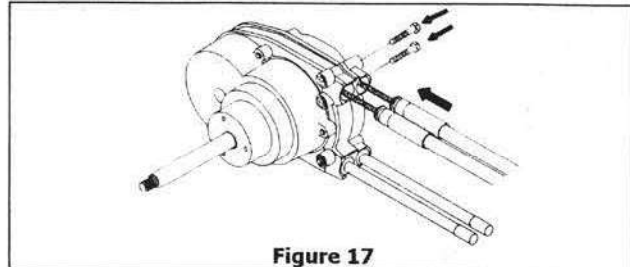

Figure 17
STEP 2. Feed the cable ends into the UPPER entry spigots, keeping the conduit fittings aligned, until they contact the internal gears. Then turn the steering wheel to draw the cables fully into the helm. Continue turning the wheel until both conduit end fittings are fully inserted into the entry spigots (see Figure 17).